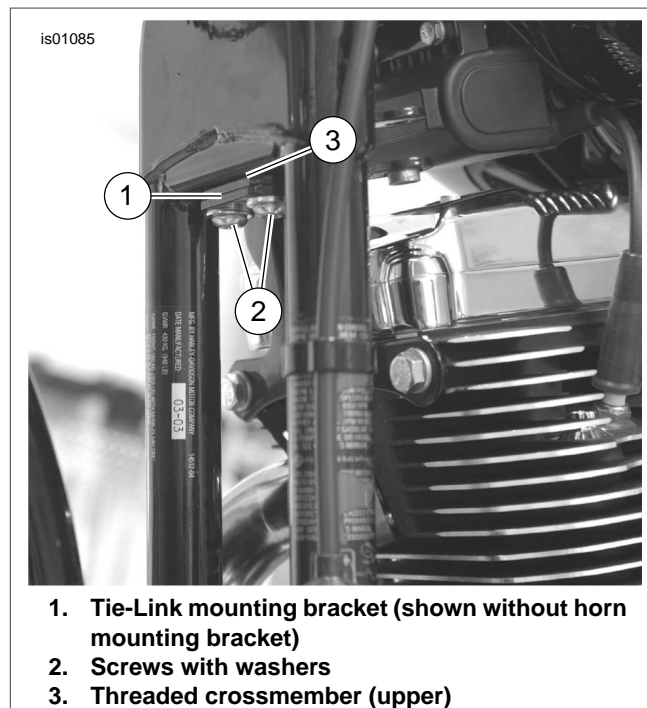

Figure 1. Remove upper Tie-Link to Frame Hardware (XL 1200 Custom Shown)
2. See Figure 1. Remove the two screws with washers (2) securing the upper tie-link assembly (1) and horn bracket if present to the upper front frame crossmember (3). Leave tie-link assembly in position. Discard screws and washers.